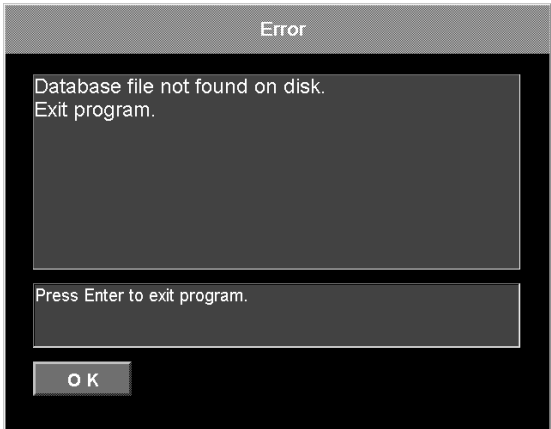

Fig. 14
- If an error message appears and the program stops operating, follow the error message. (Fig. 14)